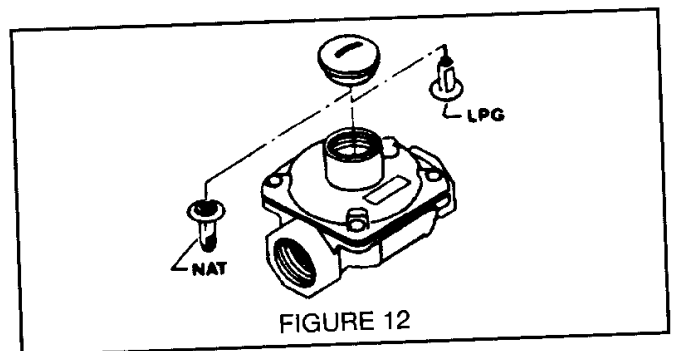

FIGURE 12
3. Remove cap and forcibly snap out plastic plunger from bottom of cap. Turn plunger over and forcibly snap back in original location (figure 12). NOTE: PLUNGER MUST SNAP INTO POSITION; THE GAS TYPE YOU ARE CONVERTING TO MUST BE VISIBLE ON LOWER SIDE OF PLUNGER.